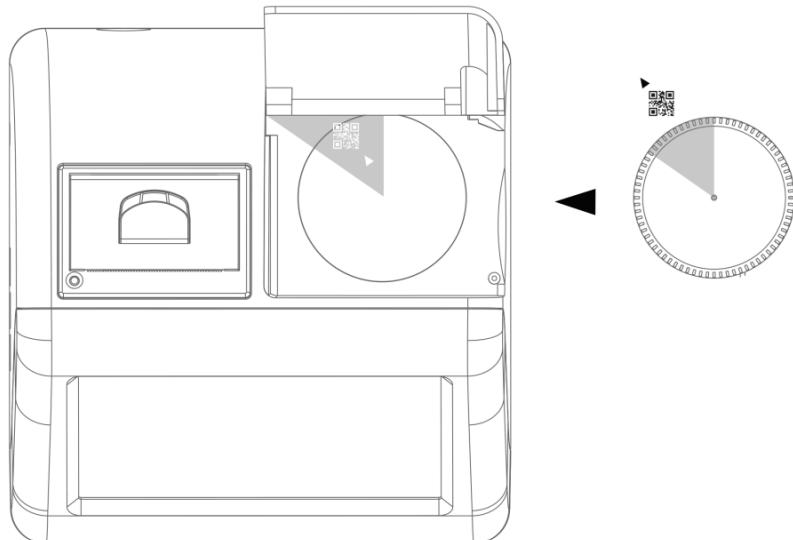

Fig 17 Orientation of the urine cup
- 2) When placing the cup into the reader chamber, align QR code on the cup label to the direction as shown in Fig 17 for faster results.